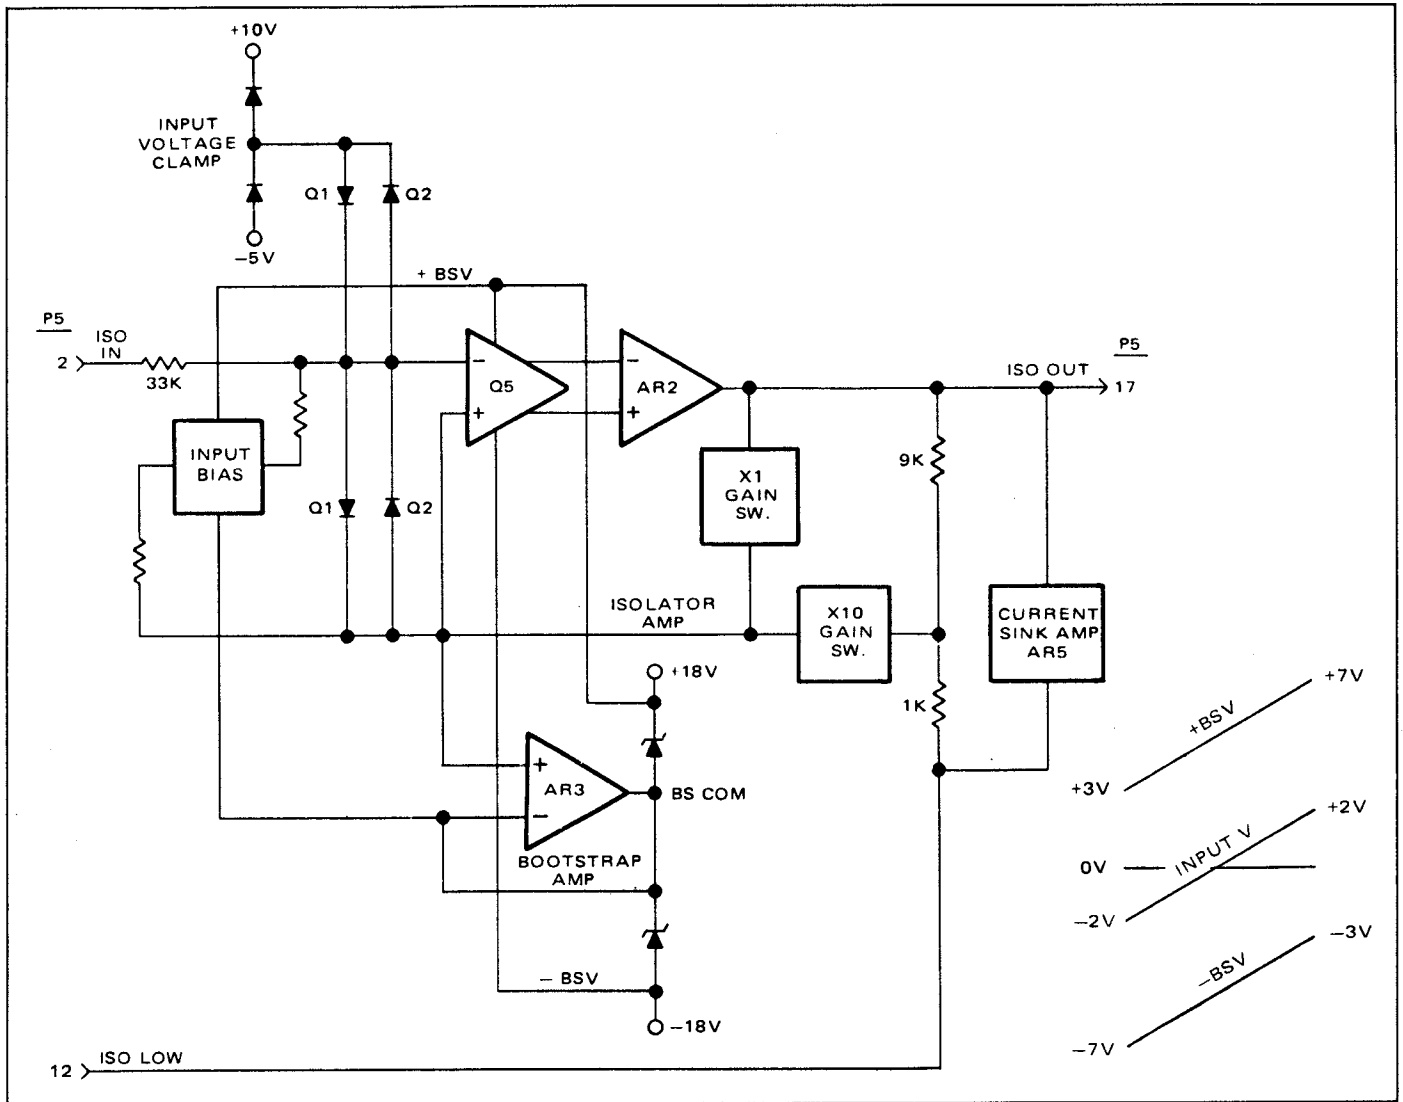

Figure 4.9 - Isolator & Bootstrap
4.3.8.1 The isolator, shown in figure 4.9, consists of an input clamp, an isolator amplifier, a bootstrap amplifier, and a gain switching network. The various prescaled and processed input measurement voltages are applied to the input of the isolator which is clamped to prevent application of more than ±5V to the input of the isolator amplifier. The isolator amplifier is an operational amplifier with a